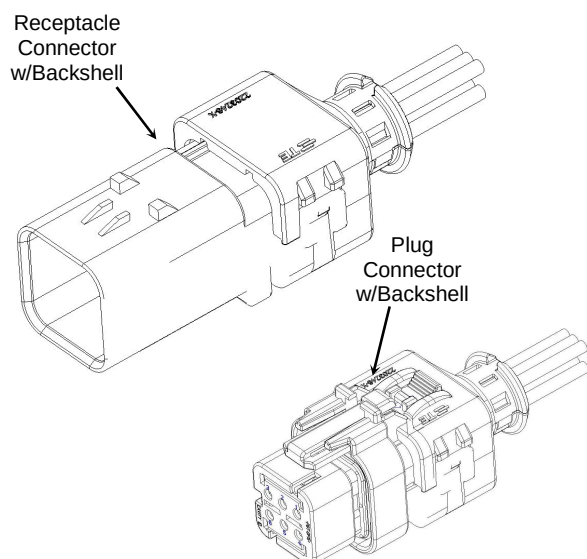

Figure 5
7. The complete AMPSEAL 16 Backshell with connectors is shown in Figure 5.